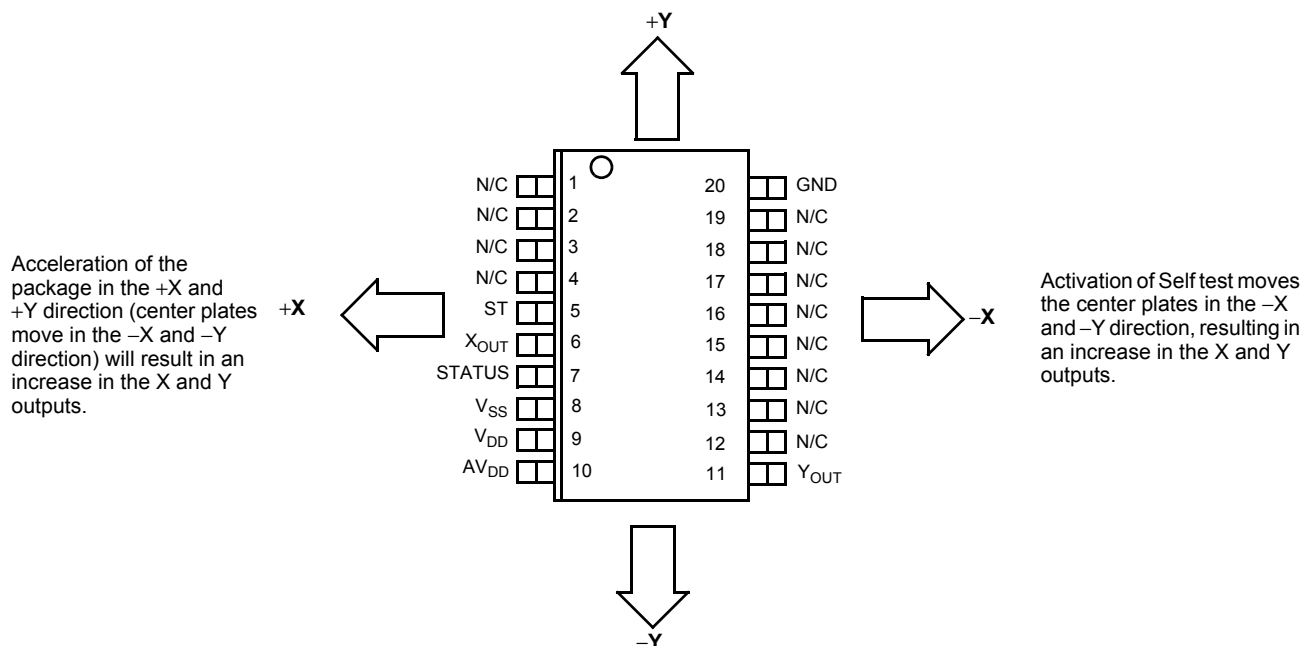

**Figure 4. Recommended PCB Layout for Interfacing Accelerometer to Microcontroller**
- Place a ground plane beneath the accelerometer to reduce noise, the ground plane should be attached to all of the open ended terminals shown in Figure 4.